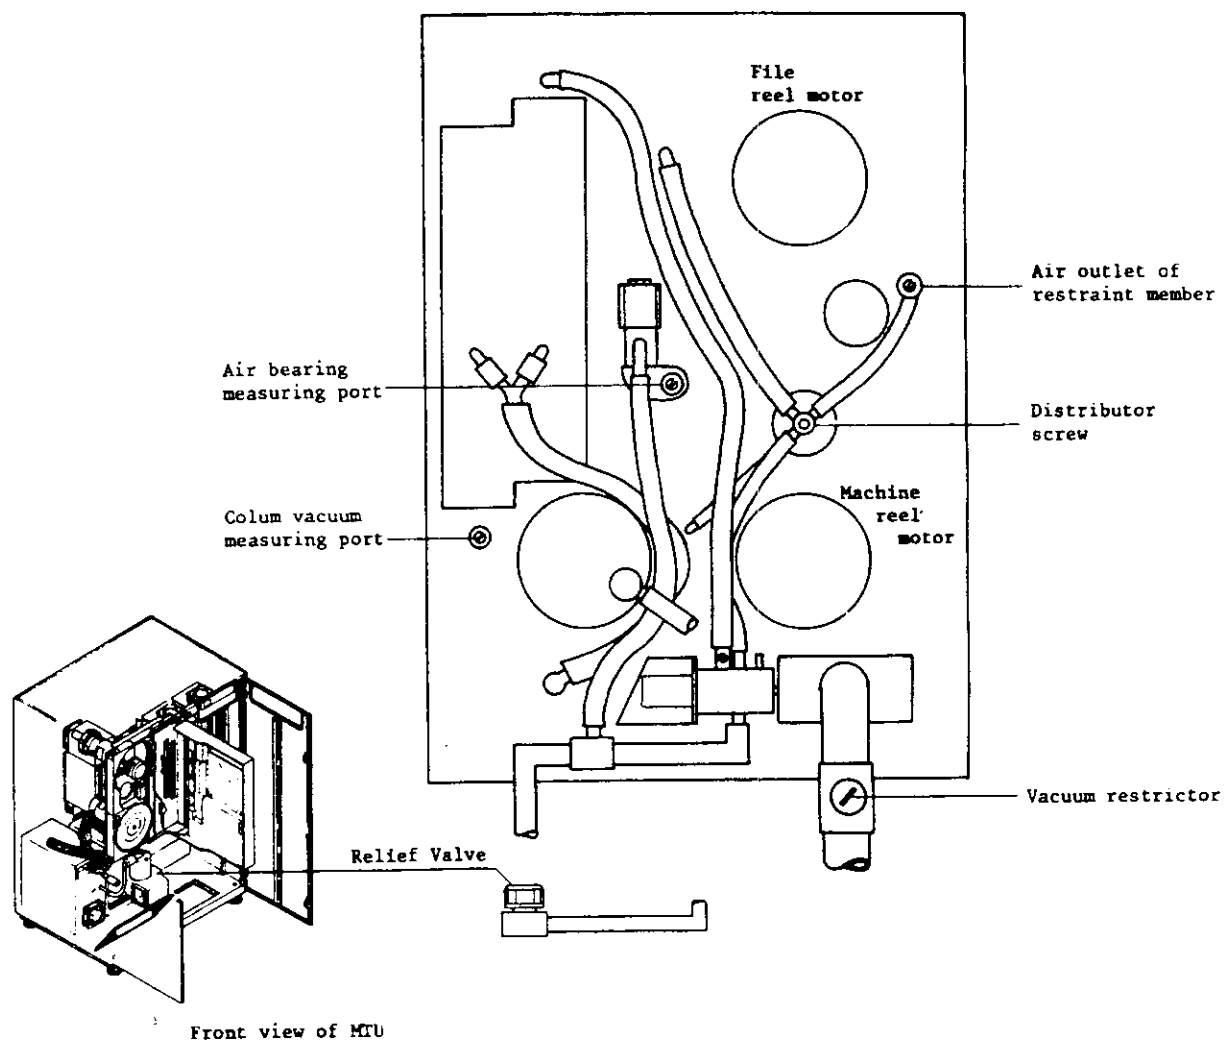

Figure K.20 Pressure check and adjustment points
- (1) Remove the white nylon screw from the column vacuum measuring port shown in Figure K.20.
- (2) Connect the vacuum gauge to the column vacuum measuring port.
- (3) Refer to the pressure check level in the table below for column vacuum.
- (4) If necessary, adjust the vacuum restrictor so that vacuum pressure is within air pressure adjustment level listed.
- (1) Ensure that field tester ONL/OFL switch is set to OFL. Set field tester switches S0 through S7 to \$01 and toggle the SSS switch.
- (2) Remove the white nylon fitting and connect the pressure gauge to the air-bearing measuring port.
- (3) Refer to the pressure check specification in the table above for air-bearing pressure.
- (4) If necessary, adjust the pressure-relief valve shown in Figure K.20 until the pressure is within the air bearing pressure adjustment level listed.